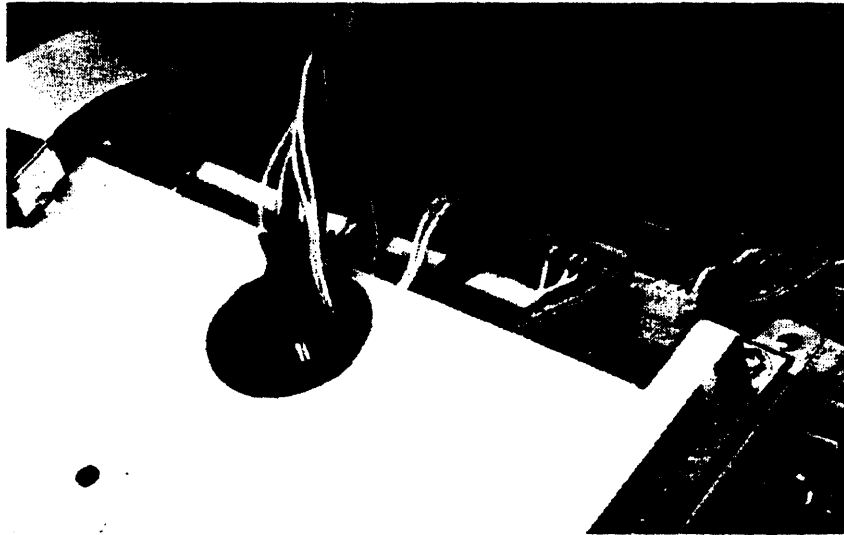

Figure 6-6. Grommeted Hole in Logic B Shield
6. There are four printer-mechanism cables that pass through the grommeted hole in the shield (see figure 6-6). Disconnect these cables from the logic B PCA, but don't remove them from the grommeted hole.
When you reconnect the four printer-mechanism connectors to the logic B PCA, make sure that the printer cables are properly oriented. *The connectors are keyed. Install them as shown in figure 6-6.*
Be sure that the printer cables are pulled tightly through the grommets in the shield. The wires as they come out of the connectors in the open space below the shield must lie flat on the PCA so as not to interfere with the fan (see figure 6-6).